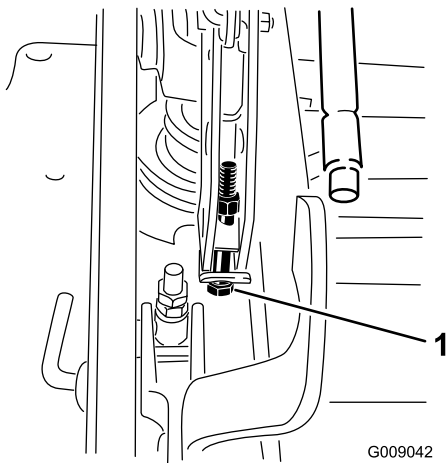

Figure 94
- If the deck is too low, tighten the single point adjustment bolt by rotating it clockwise. If the deck is too high, loosen the single point adjustment bolt by rotating it counterclockwise (Figure 94).